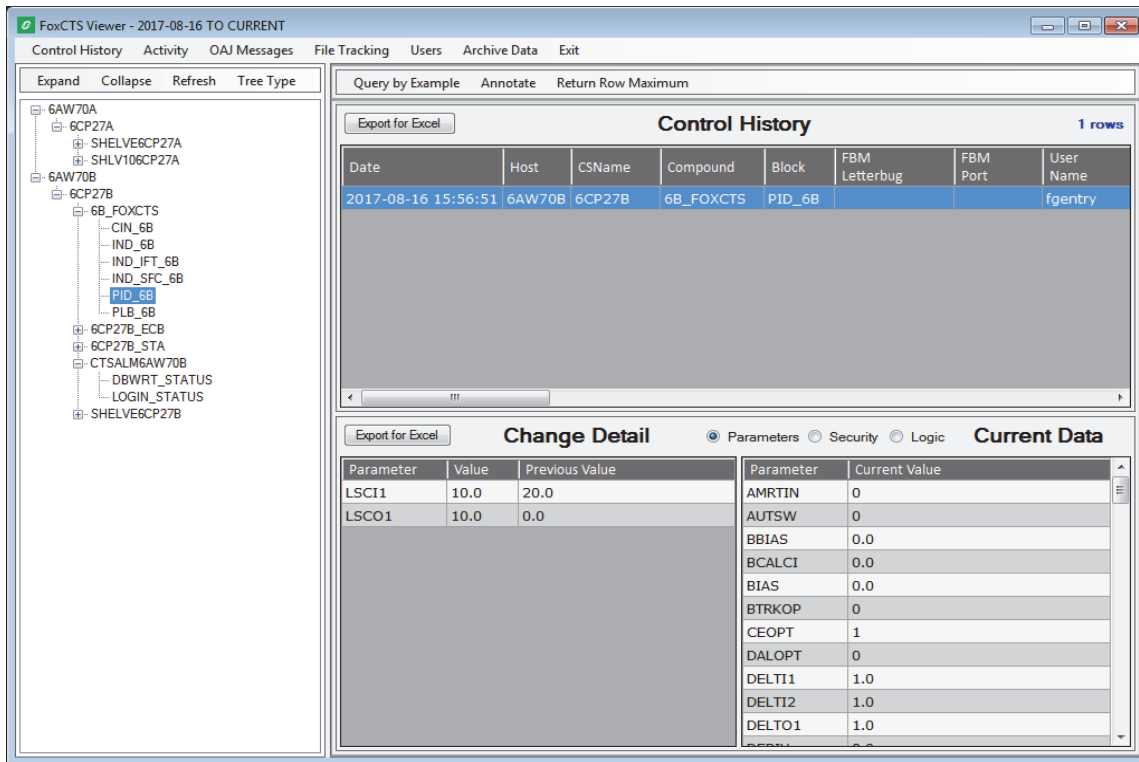

Figure 5. FoxCTS Viewer - Control History View
- ▶ Control History - Changes made to a control processor or field device, as shown in Figure 5. (Control history records may be annotated.)